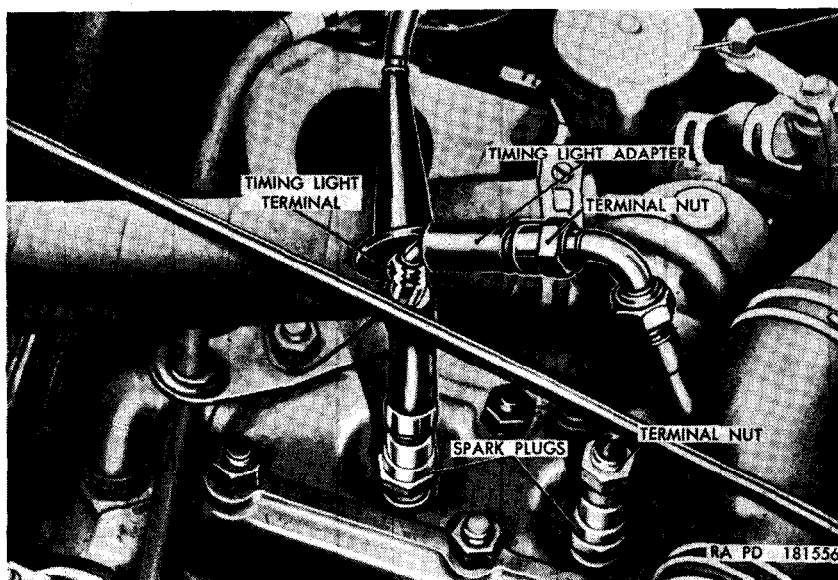

Figure 59. Timing light adapter—installed.
g. Unscrew the terminal nut securing the spark plug cable assembly to No. 1 spark plug (fig. 59). Push the timing light adapter (fig. 59) over the spark plug and connect the No. 1 cable to the adapter. Connect one terminal of the timing light to the adapter and the other terminal to ground at any convenient place on the engine.